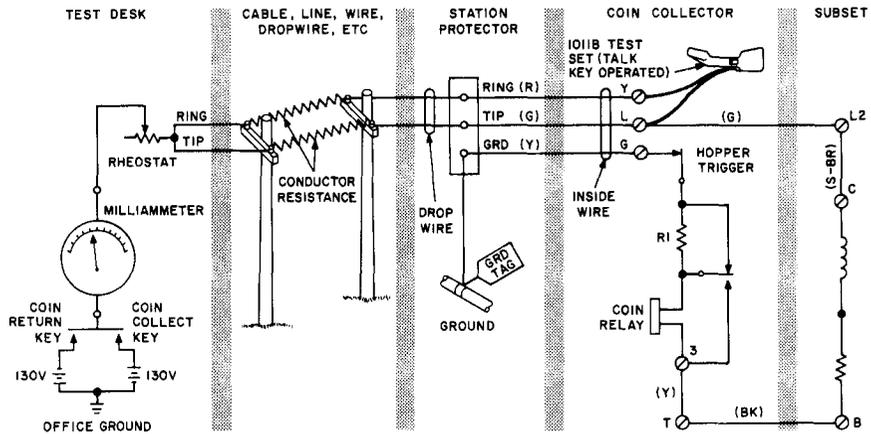

Fig. 6 — Coin Relay Current Flow Test
(1) Preparation by type of station:
- Remove upper housing and connect 1011B test set to (Y) and (L) terminals as shown in Fig. 6.
(2) With the handset off-hook operate the hopper trigger.
(3) Call testdesk and request a current flow test of the coin relay.